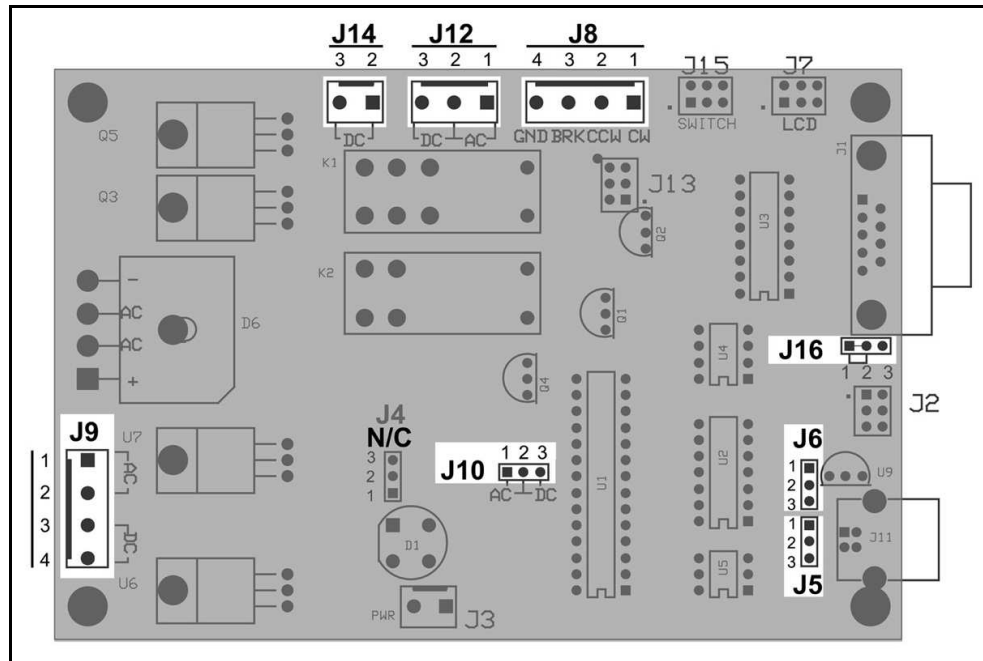

Figure 1 - RT-21 PC Board Layout—Locations of Configuration Jumpers
3. Using the appendix A for your rotor, familiarize yourself with main PC board as shown in Figure 1. Note the locations of the various wire connections and jumpers.